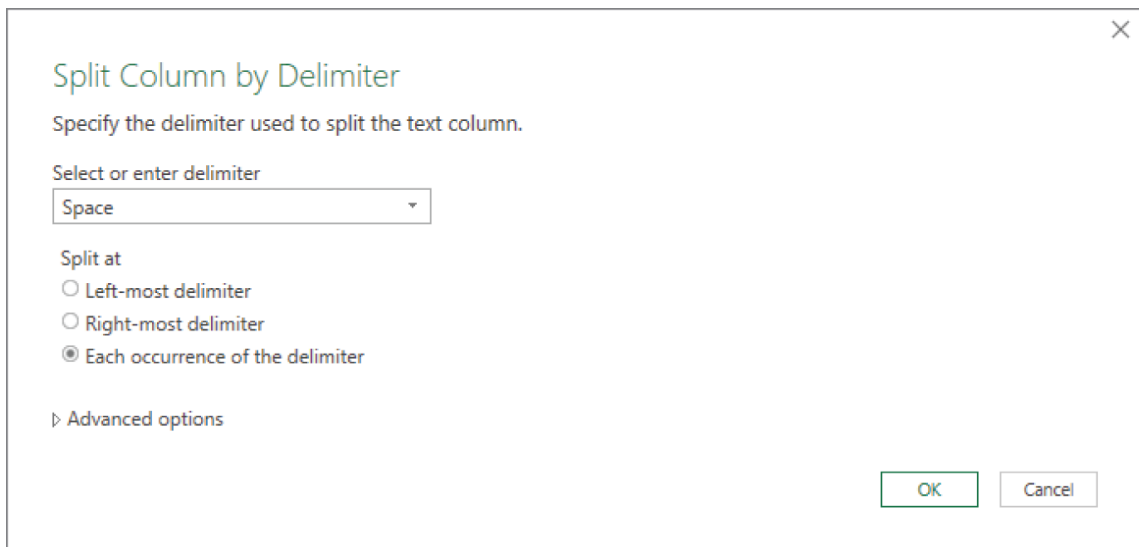

Figure 3.51: The Split Column By Delimiter dialog
- **By Delimiter:** Displays a dialog where you select or enter a character on which to split the column, shown in Figure 3.51. You can split on the first occurrence, last occurrence, or every occurrence of that character.